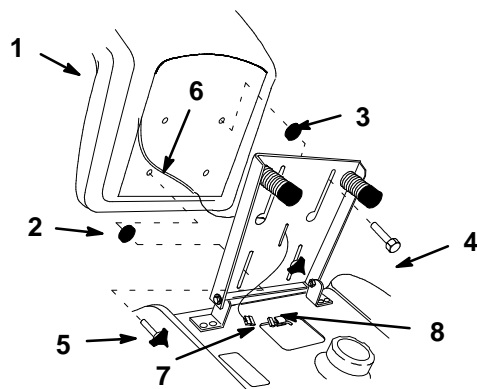

Figure 4
1. Install large ID spacer and shoulder bolts into rear holes of seat (Fig. 4).
2. Position the seat onto the seat base by inserting the two shoulder bolts through key hole openings at the end of both slots (Fig. 4).
3. Locate small ID spacer between seat and seat base, thread the knobs and flat washers into the front holes in the seat (Fig. 4). Adjust the seat and tighten the knobs.
4. Route seat switch wire and connector through center opening in the seat base. Push the seat switch connector fully into the wire harness connector (Fig. 4).
5. Secure the seat switch wire cable to the fender opening with wire clip (Fig. 4).